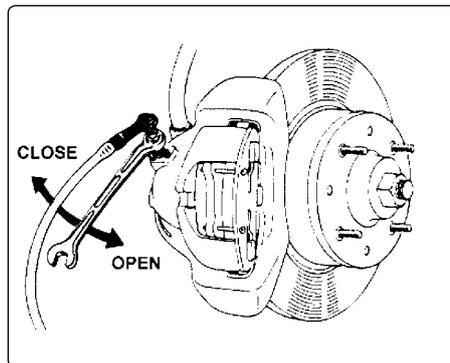

fig.2
- 5.1.8. Mount the black rubber pipe onto the brake nipple on the first wheel and open the nipple about ¼ of a turn (fig.2).
- 5.1.11. Close the brake nipple (fig.2).